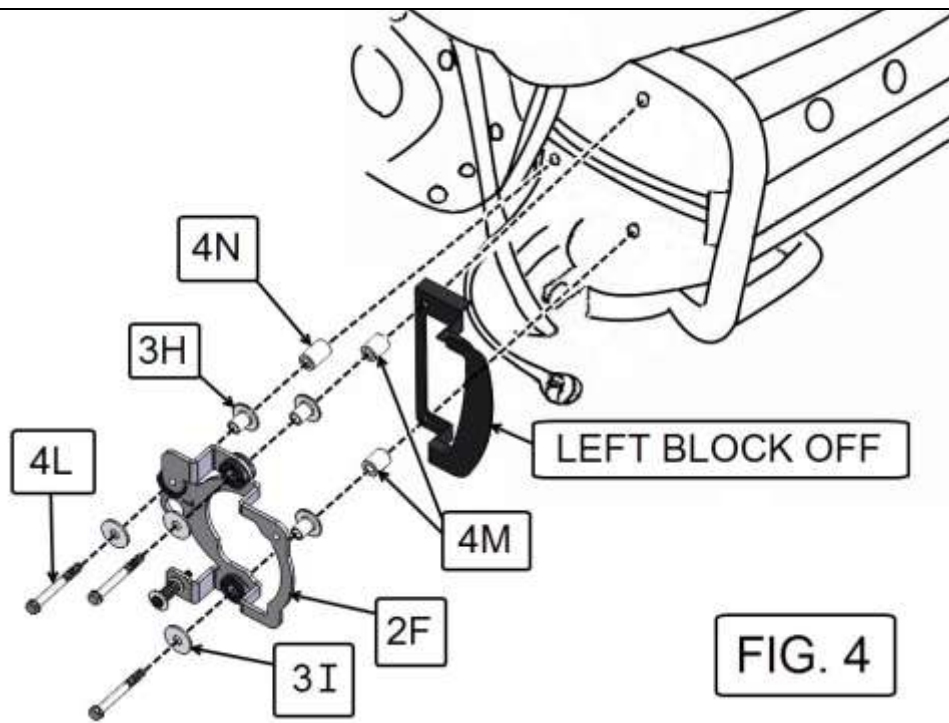

FIG. 4
- USING AN 8MM WRENCH REMOVE THE RIGHT AND LEFT BLOCK OFFS THAT ARE SHOWN IN **FIG. 3** AND **FIG. 4**. THE BOLTS WILL NOT BE REUSED.
- TAKE THE LEFT LIGHT MOUNT (2F) AND PUSH THREE SILVER FLANGE COLLARS (3H) INTO THE BACK OF THE LARGE RUBBER GROMMETS (2G) AS SHOWN IN **FIG. 4**.
- USING THE M6 X 50MM LONG HEX HEAD SCREWS (4L), M6 FLAT WASHERS (3I), 6MM X 16MM LONG SPACERS (4M) AND 6MM X 20MM LONG SPACER (4N) ASSEMBLY THE LEFT MOUNT TO THE BIKE. SEE **FIG. 4**. **NOTE: BE SURE TO REINSTALL THE LEFT BLOCK OFF AS SHOWN.**